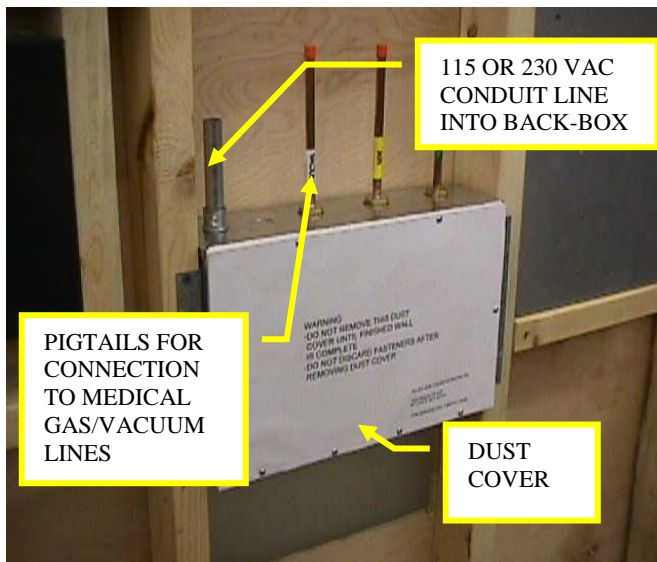

Figure 10 – Box Installed In Wall
2.7.1 The Connection to the 115/230 Volt, 50/60 Hertz mains are provided in the back box (see Figure 10). The fuse is located on the power supply cover. The fuse should be a 250V 3A fuse.
- 4.1.2 Install the back box at the specified height, in a rough-in wall (see Figure 10). Fasten it securely to the wall framing. **Make sure the front face of the back box is level and flush with the finished wall surface.** The contractor is reminded to coordinate with other trades in anchoring alarms rigidly into the wall. **It is not sufficient to simply grout them in.** The adjustable flanges on either side of the back-box are used for various thicknesses of drywall.
4.7.1 Bring 115 or 230 volts AC line, thru conduit, to the left top side of the Back Box (see Figure 10) and connect conductors to the terminal block mounted on the outside of the power supply: Hot wire to terminal labeled “**L**” ; Neutral wire to terminal labeled “**N**”; and the Ground wire to terminal labeled “**G**”. Note, strain relief should be used to attach Main Power to back box. Power for master and area alarms from the life safety branch of the emergency electrical system as described in Chapter 4, Electrical Systems. Power for local alarms, dew point sensors, and carbon monoxide sensors permitted to be from the same essential electrical branch as is used to power the air compressor system. Wiring from switches or sensors that is supervised or protected as required by Section 517.30(C) (3) of NFPA 70 National Electrical Code, for emergency system circuits.